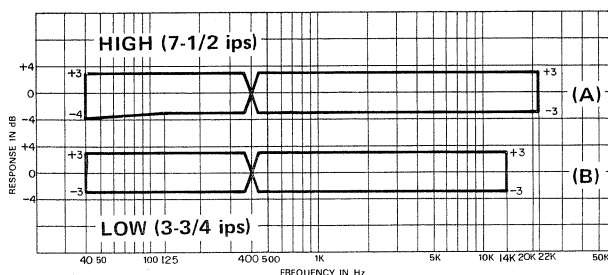

Fig. 8-4 Frequency Response – PLAYBACK –
- Play Tape and compare reading on VTVM with the response limits given in Fig. 8-4 (A).
- Play the tape and compare the readings on the VTVM with the response limits given in Fig. 8-4 (B).